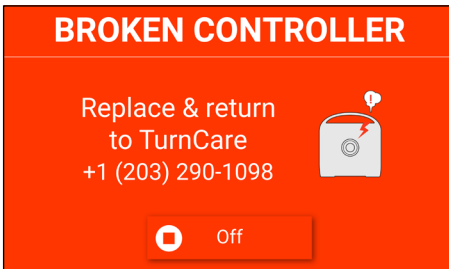

Figure 29. Broken Controller alert screen
1. If the Guardian System detects a controller malfunction that is interfering with therapy, it will alert the user. The controller must be removed from service, replaced immediately, and returned to TurnCare. (Fig. 29)